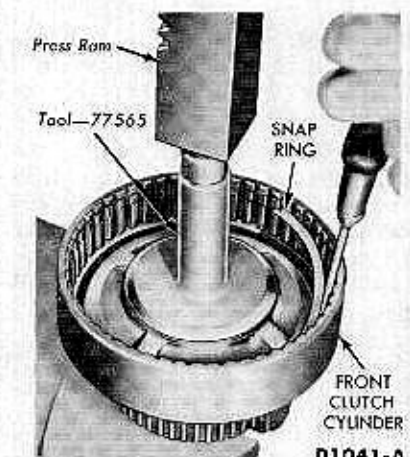

FIG. 14—Front Clutch Spring Snap Ring Removal
4. On the PBL transmission, place the front clutch spring compressor on the release spring, position the clutch drum on the bed of an arbor press, and then compress the release spring with the arbor press until the release spring snap ring can be removed (Fig. 14). This tool is not necessary for removing the spring on the PBB transmission.
21. On the PBL transmission, position the release spring in the clutch cylinder with the concave side up. Place the release spring compressor on the spring, compress the release spring with an arbor press, and then install the snap ring as shown in Fig. 14. **Make sure the snap ring is fully seated in the groove.**